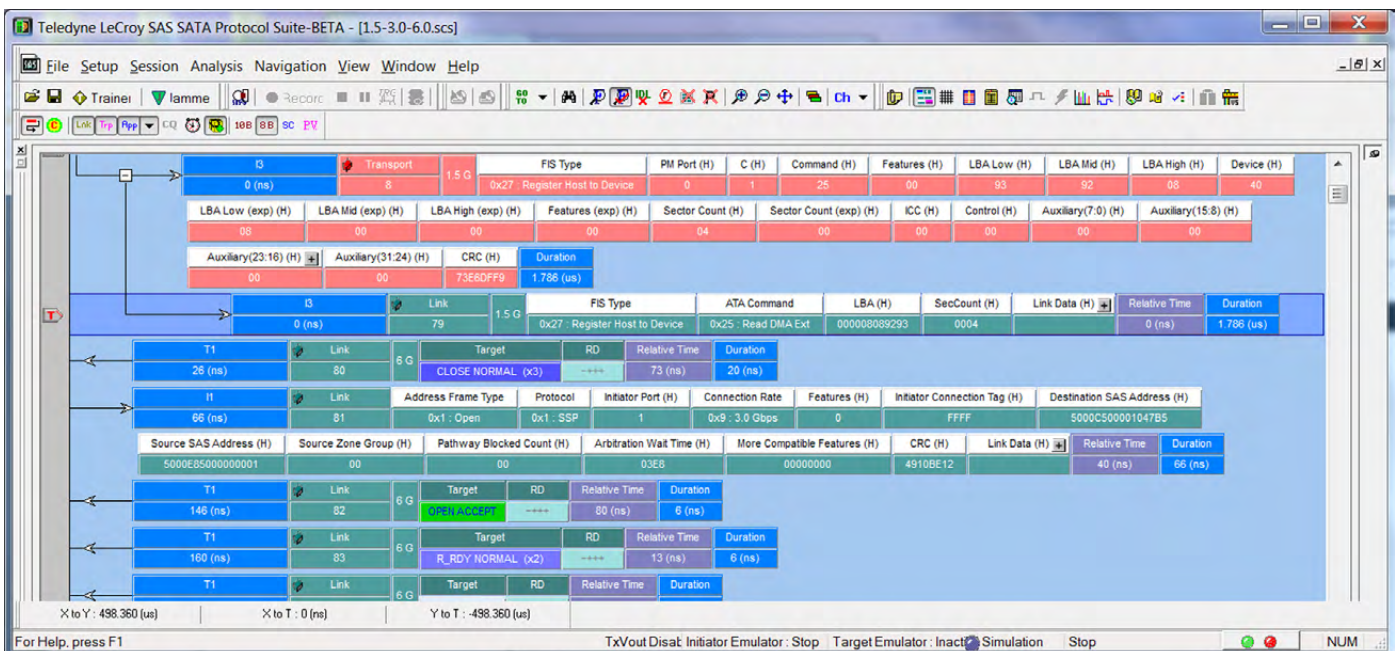

Figure 3.21: Default Workspace (Trace View)
1. Open a trace file. (In this case the 1.5-3.0-6.0 Trace has been opened). See Figure 3.21 on page 133.